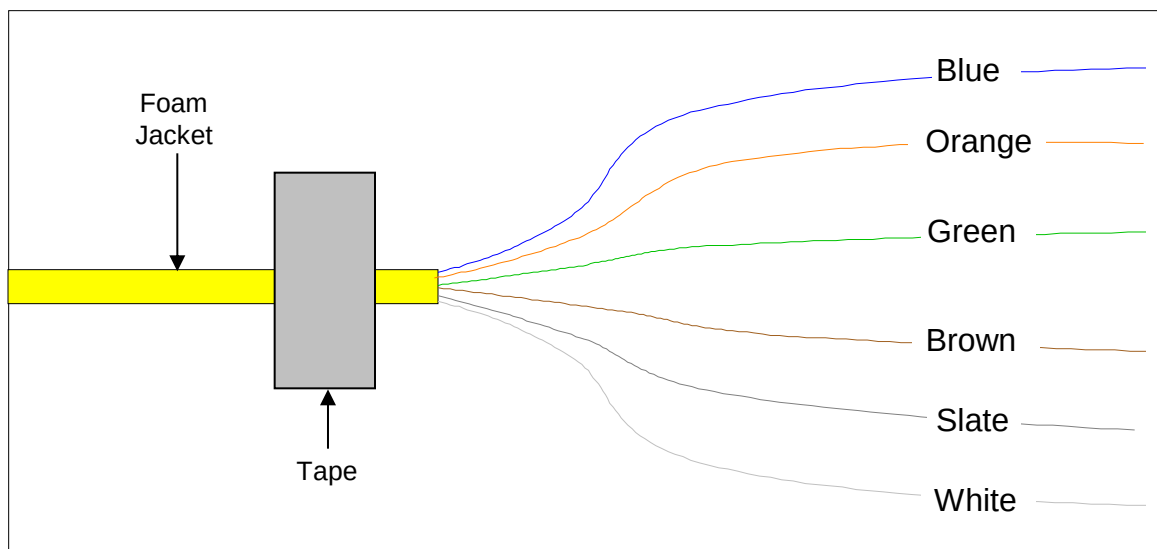

Figure 2
5.5 Separate and organize fiber bundle strands. At the point where the strands exit nylon sub-unit, carefully arrange them so they are not crossed and carefully separate them along their entire length. **See Fig. 2.**